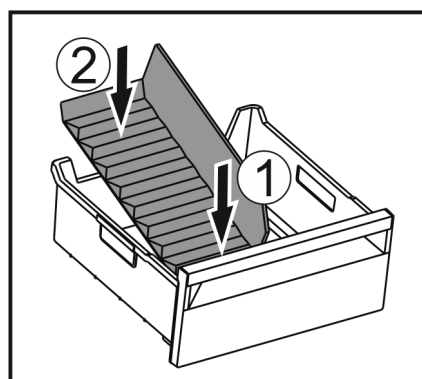

Fig. 235
- Insert the front part of the ice compartment divider. Fig. 235 (1)
- Lower the rear part of the ice compartment divider to the drawer bottom. Fig. 235 (2)